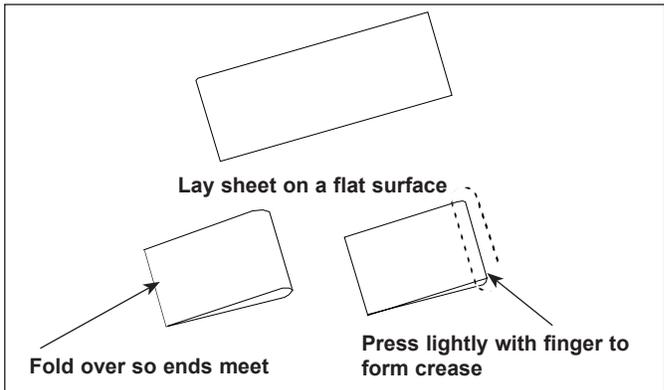

Figure 3. Folding Release Sheet
4. Remove the release sheet from the plastic bag and lay it on a clean, flat surface. Fold the sheet exactly in half (Figure 3).
5. Crease the sheet at the fold using only your finger (Figure 3).